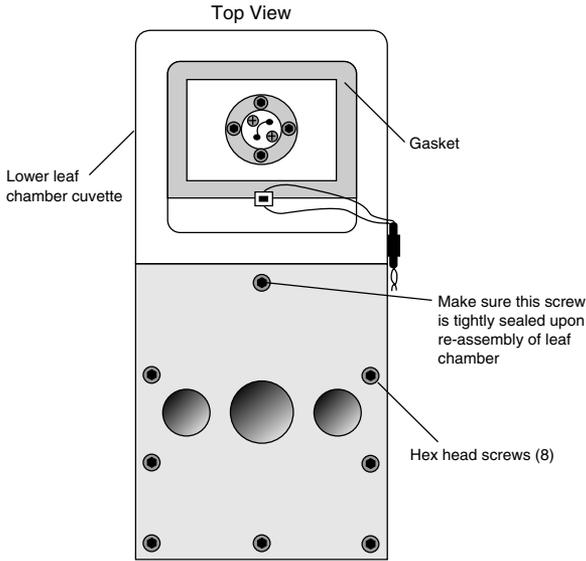

Figure 2-10. Remove the 8 hex head cap screws.
5. Remove the lower half of the leaf chamber. There are 8 hex head cap screws on the optical bench cover, as shown in Figure 2-10. Remove the cap screws with a 5/64" hex key (in the spares kit). The lower half of the leaf chamber can now be removed.